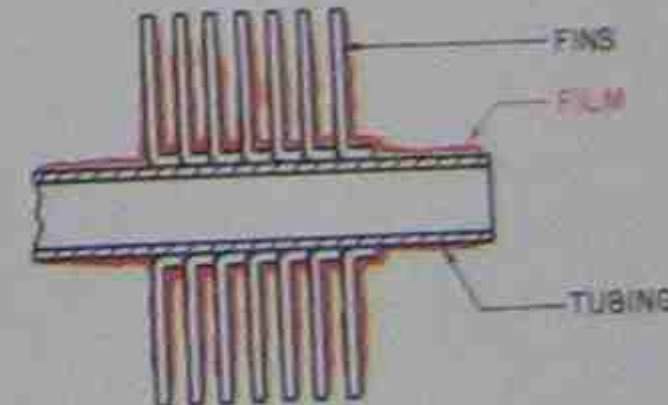

Figure 19-15. One of the deterring factors in a normal heat exchange. The film factor is the film of air or liquid next to the tube in the heat exchange.
3. The *film factor*. This is a relationship between the medium giving up heat or absorbing heat and the heat-exchange surface. The film factor relates to the velocity of the medium passing over the exchange surface. When the velocity is too slow, the film between the medium and the surface becomes an insulator and slows the heat exchange. The velocity keeps the film to a minimum, Figure 19-15. The correct velocity is chosen by the manufacturer.